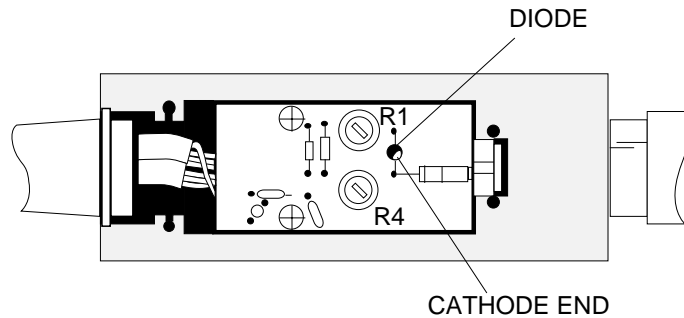

Figure A-1. Model 5400-71B75 RF Detector Housing Layout Diagram
Whenever the detector diode (or diode module) of these RF Detectors is replaced, the two potentiometers that are part of the RF detector PCB subassembly (Figures A-1 and A-4) must be readjusted. The potentiometer readjustment is done after the defective diode is removed, but before the replacement diode is installed.
- Step 2** Unplug the defective diode (Figure A-1) from the PCB subassembly and remove.
- Step 11** Orient the cathode end (white dot) of the replacement diode as shown in Figure A-1 (white dot toward centerline of the detector PCB subassembly). Insert the diode into the socket of the PCB subassembly.